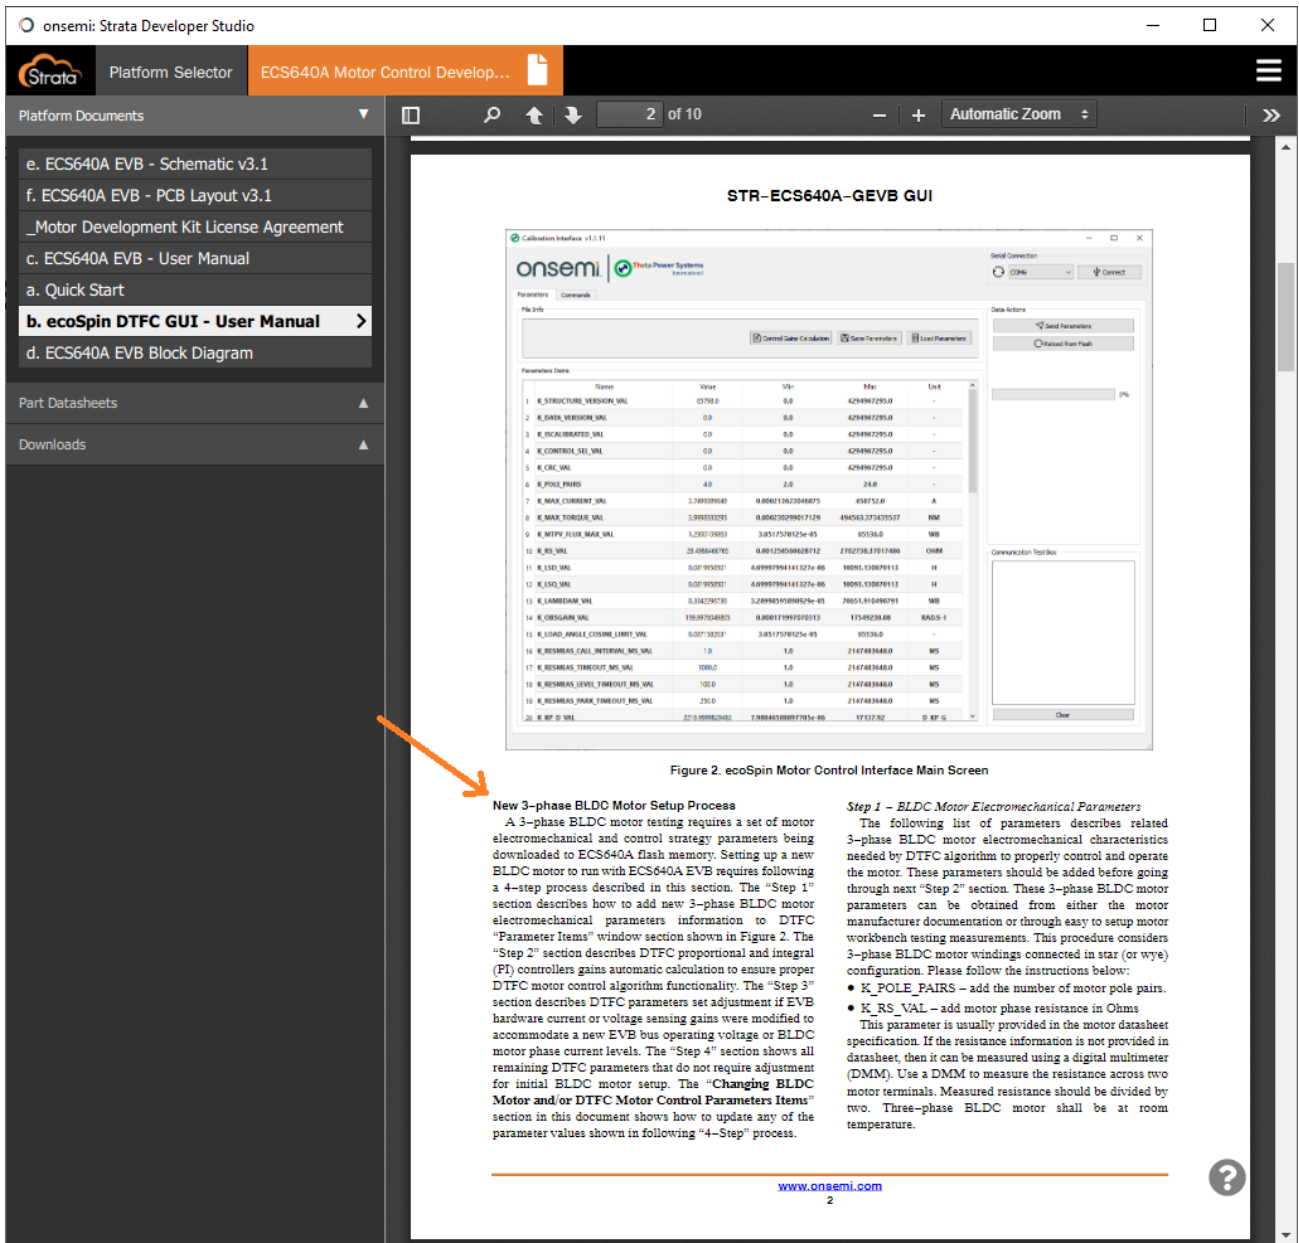

Figure 8. ecoSpin DTFC GUI User Manual – New 3-phase BLDC Motor Setup
Step 6: Launch the “ecoSpin DTFC Interface.exe” application on a Windows-based laptop. Browse the “ecoSpin DTFC GUI User Manual” (UM70067 file) and follow the “New 3-phase BLDC Motor Setup Process” section (see Figure 8). This user manual section describes capturing BLDC motor parameters and filling in the ecoSpin DTFC GUI parameter list. The DTFC parameter list enables ecoSpin DTFC embedded software on the ECS640A EVB to spin the target BLDC motor properly.